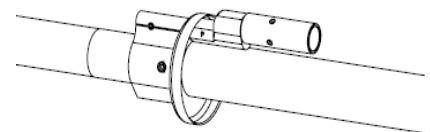

Fig. 4 – Spigot/Gas Cylinder Installation
- Step 9** – Insert the Spigot/Gas Cylinder Assembly into the gas-tube hole in the front sight block, as shown in Fig. 4 until the roll-pin hole in the Spigot will align with that of the front sight block. Once aligned, insert the roll-pin into the front sight block and use an appropriate punch and small hammer to seat the pin.